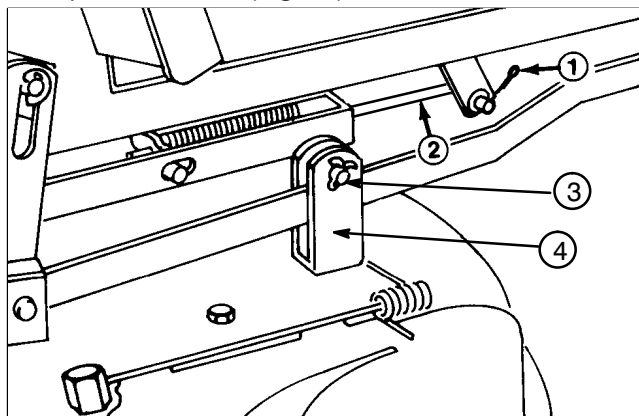

Figure 22
5. Remove cotter pin from adjustment rod and pull from pivot tube arm (Fig. 22).
2. Remove cotter pin from adjustment rod (Fig. 22).